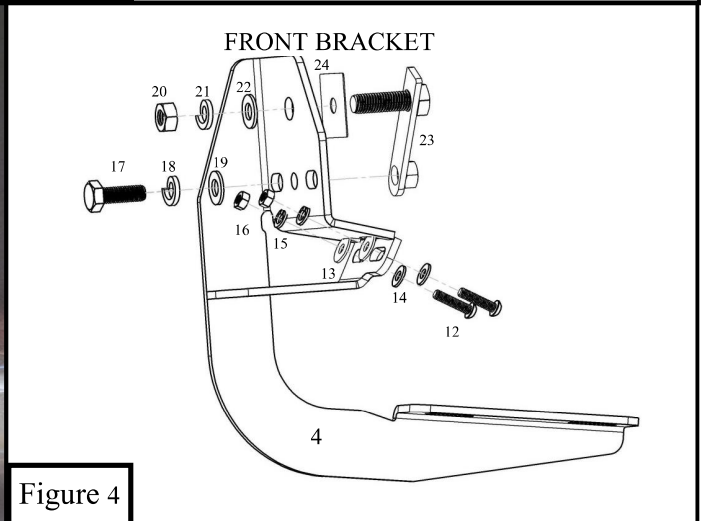
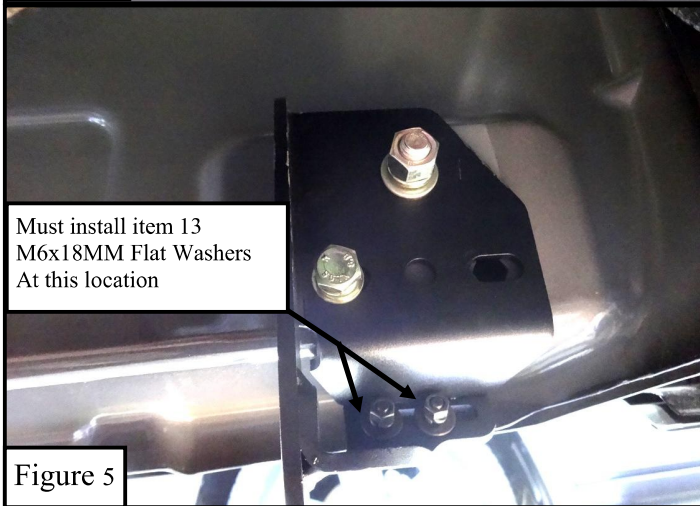

Figure 4
Figure 5
- Install (1x) "A" mounting bracket (item 3), and attach it to the rocker panel using (1) M10 hex head bolt (item 17), (1x) M10 lock washer (item 18), (1x) M10 flat washer (item 19), (1x) M12 hex nut (item 20), (1x) M12 lock washer (item 21), (1x) M12 flat washer (item 22), (2x) M6 button head bolt (item 12), (2x) M6 18mm flat washer (item 13, see figure 5), (2x) M6 12mm flat washer (item 14), (2x) M6 lock washer. *Do not fully tighten at this time, Figure 4 & 5.*